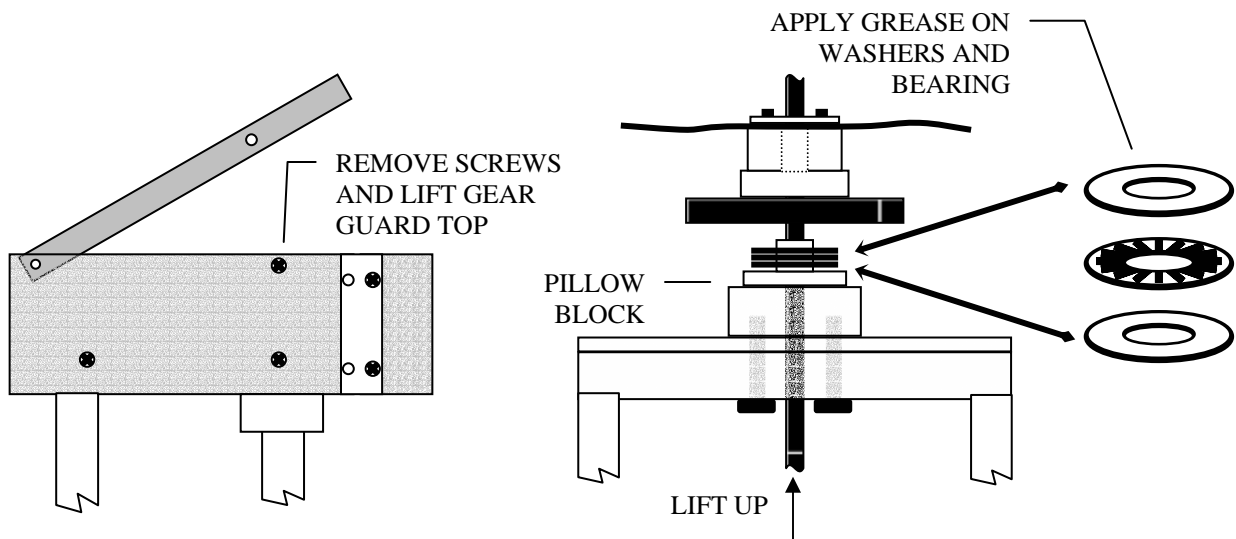

Figure 7.1 – GREASING THE PILLOW BLOCK
2. Once every six months lift the Gear Limit Switch Bar then lift the Power Screw and Driven Gear from the Pillow Block. Apply a small dab of light lubricating grease on the bearing over which the Gear and Power Nut rotate. Refer to Figure 7.1 – GREASING THE PILLOW BLOCK below.